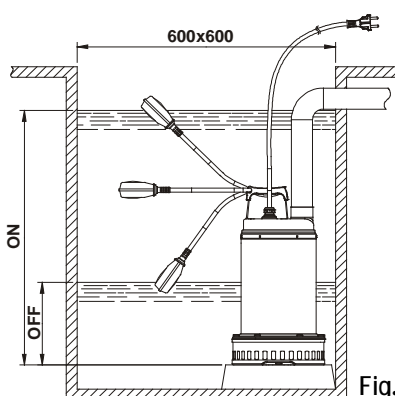

Fig.1
- 4.1 If the bottom of the well or borehole in which the pump is to operate is particularly dirty, it is advisable to provide a support for the pump to sit on so as to avoid clogging of the intake grid (Fig.1).
2. On the version provided with a float switch, ensure that the float can move freely (SEE THE PARAGRAPH ON ADJUSTING THE FLOAT SWITCH). Ensure that the **minimum dimensions** of the borehole are as in Fig.1. The dimensions of the borehole must also be calculated with relation to the quantity of water arriving and to the pump flow rate so as not to subject the motor to excessive starting operations.